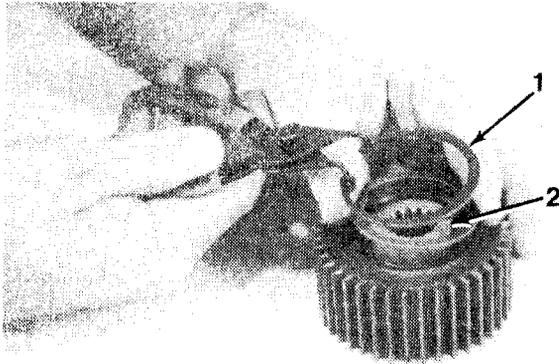

Figure 16-1
1. Remove one of two retaining rings (1) and brake roller retainers (2, Figure 16-1).